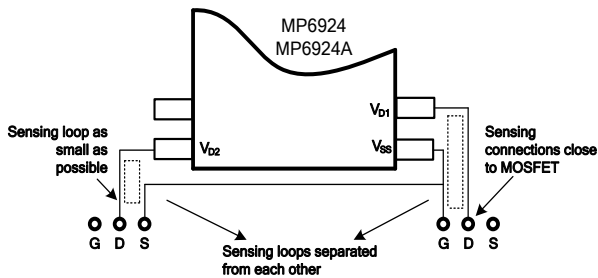

Figure 8: Sensing for  $V_D/V_S$
3. Make the sensing loop as small as possible (see Figure 8).